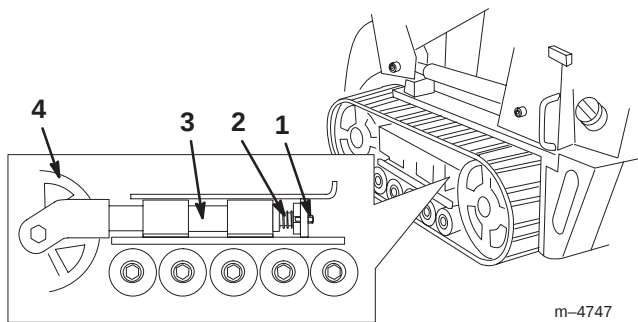

Figure 30
3. Remove the locking bolt and nut (Fig. 30).
4. Using a 1/2 in. drive socket, release the drive tension by turning the tensioning screw clockwise (Fig. 30 and 31).